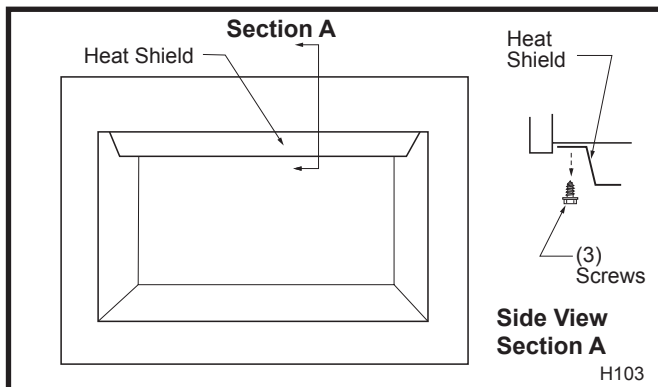

Fig. 65 Heat shield.
First connect ground wire to ground stud located on the base of either box. Black wire from supply should connect to the variable speed switch. Alternate speed switch wire connects to temperature sensor. Alternate lead from sensor connects to fan. Alternate fan lead connects back to the white supply wire. (Fig. 65)
2. Remove three (3) screws securing heat shield to combustion dome. (Fig. 65)